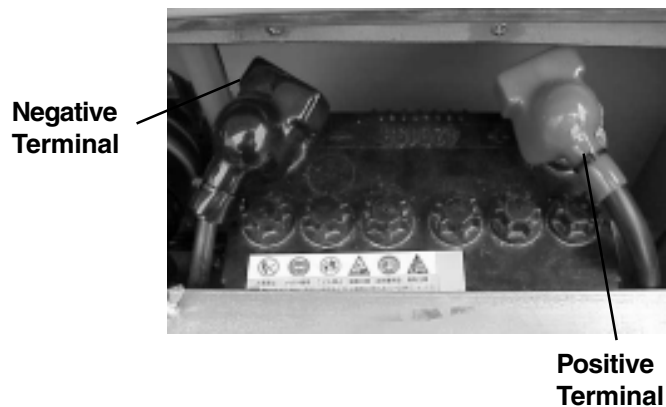

Figure 38. Battery Connection
1. When removing cable, disconnect the ground side (normally negative) first (Figure 38).